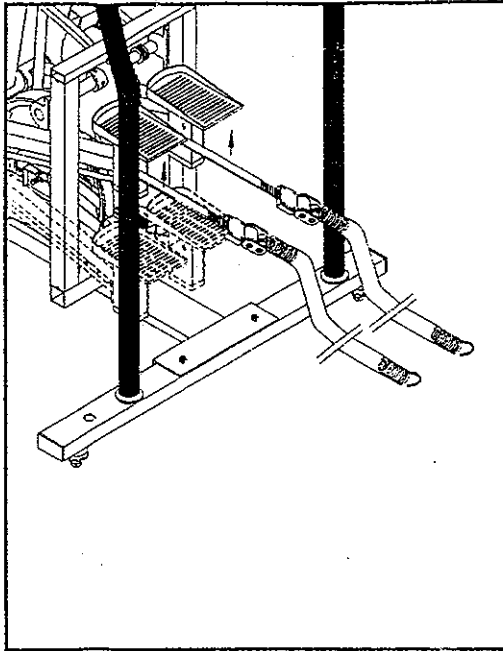

Fig. 16
4. Raise both foot pads to their highest positions. Match the teeth of the belt into the gear teeth (see Fig. 16 & 17).